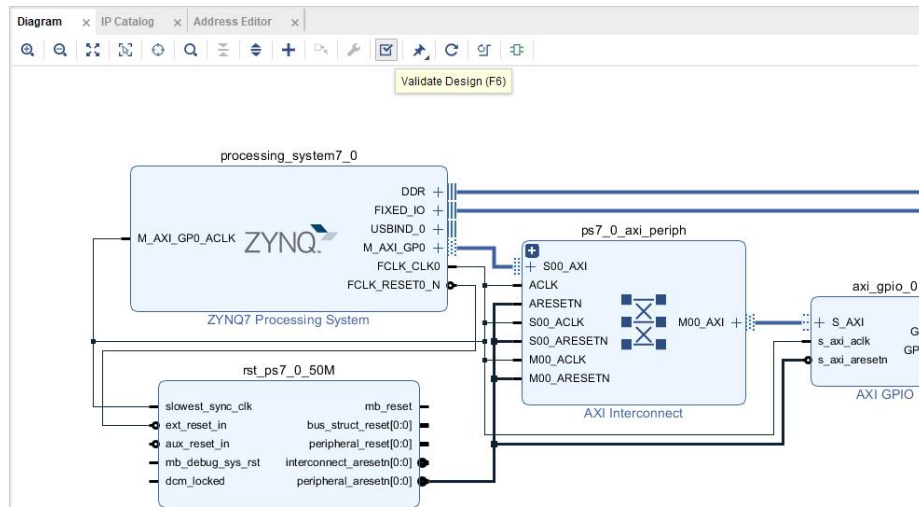

Figure 17
- Then validate the design by selecting in the menu bar **Tools → Validate Design** or selecting the **Validate Design** icon in the horizontal toolbar of the **Diagram** window (Figure 17)